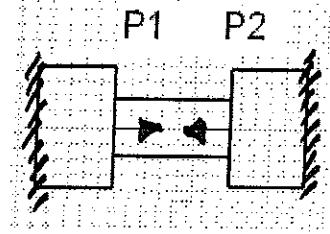

Fig. 3
6. Consider a specimen as shown in Fig.3. Both ends are fixed and $P_1=1000N$ and $P_2=2000N$. Determine the nodal displacements and elemental strains using direct stiffness approach. The diameters of the sections are 20, 10 and 20mm respectively. The lengths of the sections are 15, 20 and 15mm. $E=200GPa$. [10]